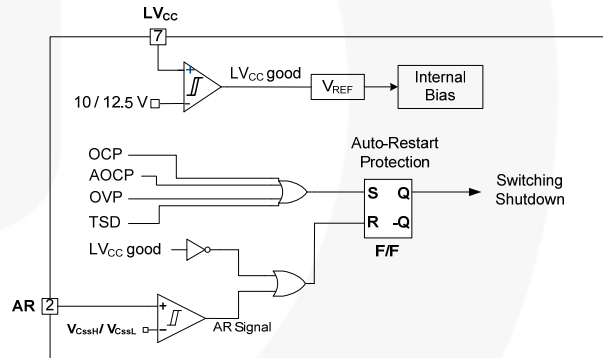

Figure 22. Protection Blocks
5. Protection Circuits: The FSFR-XS series has several self-protective functions, such as Over-Current Protection (OCP), Abnormal Over-Current Protection (AOCP), Over-Voltage Protection (OVP), and Thermal Shutdown (TSD). These protections are auto-restart mode protections, as shown in Figure 22.